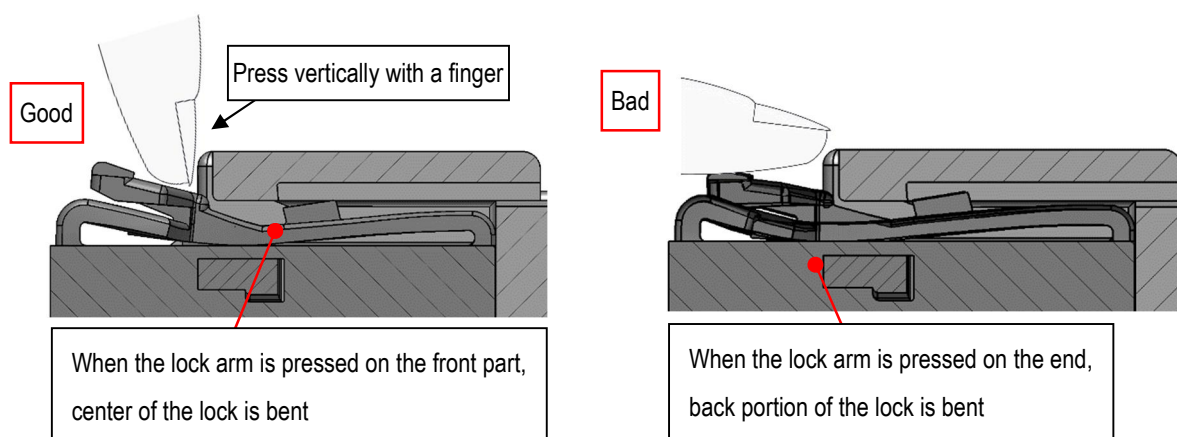

Fig. 46 Mechanism of the lock
- ② Hold and pull the female connector (not the wires), when disengaging the female connectors.
- ③ If there is any damage or deformation, do not use the damaged item. Replace the item with a new one.
- ④ Pressing down the end of the lock arm may not release the lock fully (See Fig. 46).